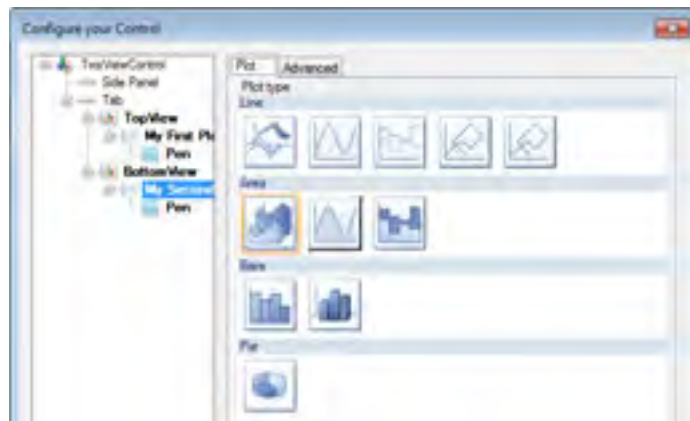

Figure L1.10 - Changing Plot Type
15. Turn this plot into an Area plot by selecting the first Area picture as shown in Figure L1.10.